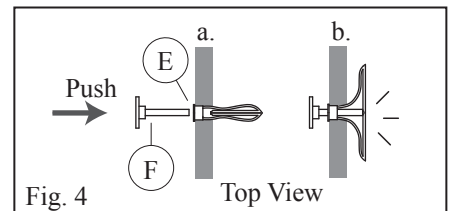

Fig. 4
5. Insert the red push pin (F) into the drywall anchors (E) until the wings pop open. (Fig. 4) Then remove the pin. Do not tap the red push pin with hammer.